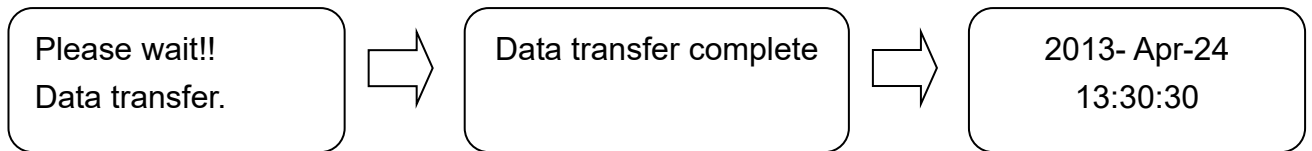

Figure 32
- b) After completing a sterilization cycle, the data will be stored to SD card or USB flash drive; and the recorder returns to stand-by mode. The sequences of storage message are shown in the Figure 32.